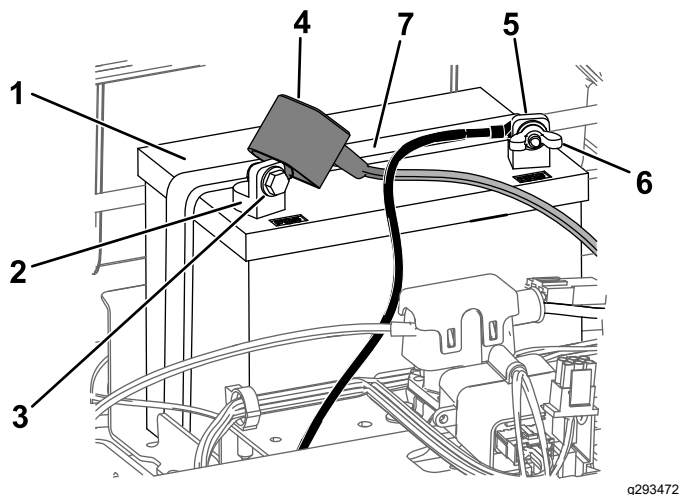

Figure 48
4. Disconnect the negative (black) ground cable from the battery post (Figure 48).
6. Disconnect the positive (red) cable from the battery post (Figure 48).
7. Remove the battery hold-down (Figure 48), and lift the battery from the battery tray.
1. Position the battery in the tray (Figure 48).
5. Secure the battery with the hold-down (Figure 48).